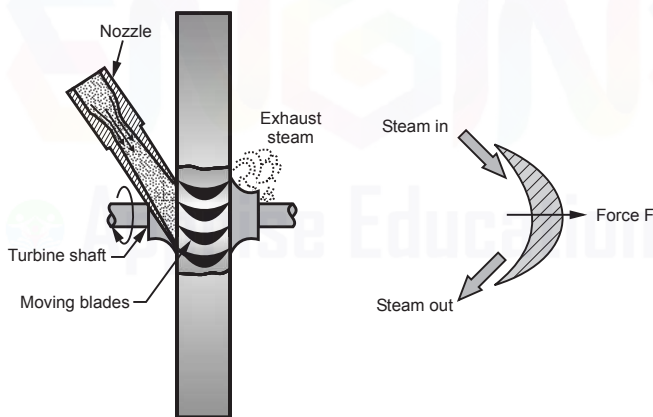

Fig. 3.1 : Working principle of steam turbine
- This high velocity jet of steam is impinging on the blades mounted on a shaft. Refer Fig. 3.1.